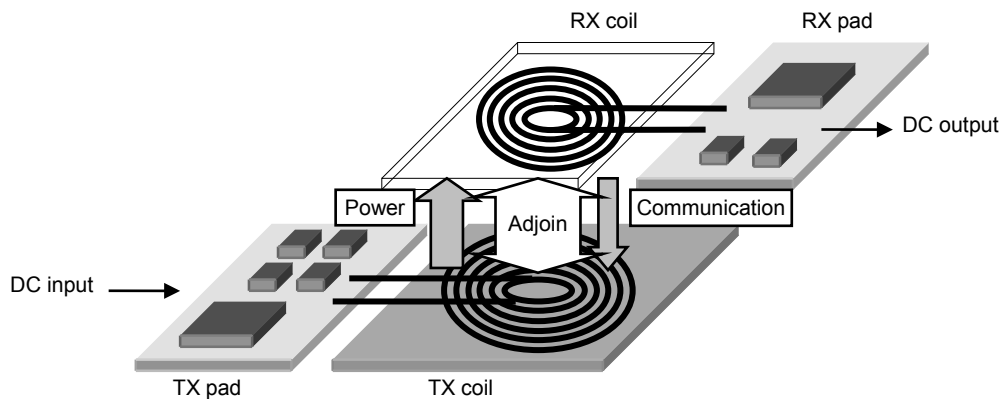

Figure 8.1 General outline of Wireless power system
Qi compliant wireless power system consists of the first side (TX) which transmits power and the second side (RX) which receives power. Power is transmitted by adjoining coils included in TX and RX and by sharing and combining flux. RX controls the power by monitoring receiving power and sending feedback signal to TX. TX controls the power by controlling transmitting power with feedback signal which is received from RX. Configuration example of wireless power system is shown in Figure 8.1.